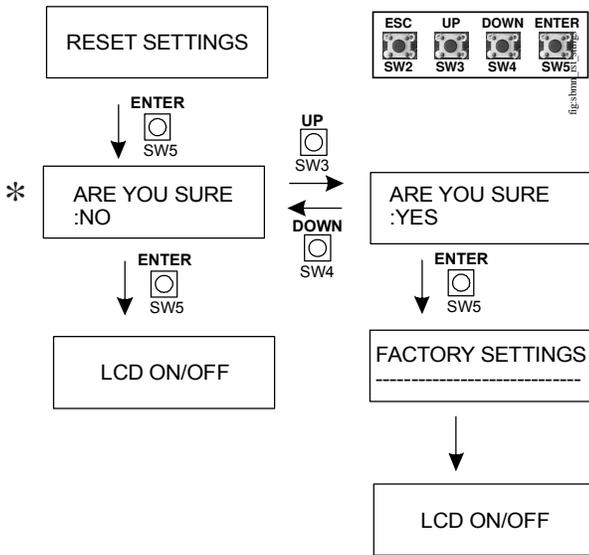

Figure 11: Reset Settings Submenu
Note: If the Electronic Controller has settings other than the default settings, you may want to make note of them before you reset the Electronic Controller. The default values are denoted in Figures 11 through 21 with an asterisk \*.
- Figure 11 ARE YOU SURE